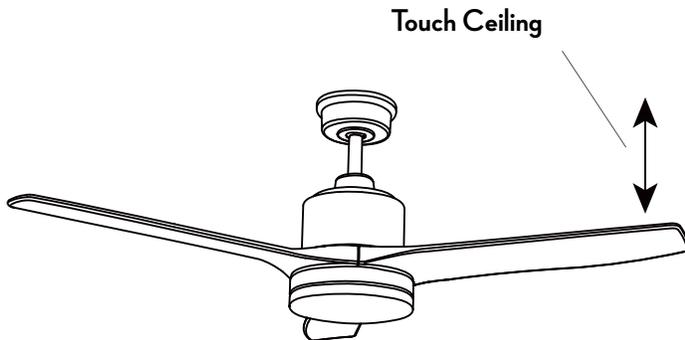

Figure 15
- Most fan wobble problems are caused when blade levels are unequal. Check this level by measuring the distance from the tip of one blade to the ceiling as shown in Figure 15.
Excessive Wobbling.	<ul style="list-style-type: none">□ Make sure that screws which attach fan blade holders to motor are fastened and tightened.□ Tighten screws of fan blade to blade holder securely.□ Ensure that canopy and mounting bracket are tightened securely to ceiling joist.□ Check by selecting a point on the ceiling above the tip of one of the blades. Measure this distance and ensure all blades are even (see Fig. 15).